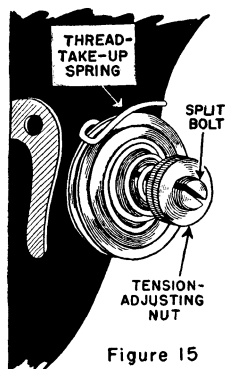

Figure 15
2. If the take-up spring seems weak and does not return to its stop position regularly, it needs another type of adjustment. On many machines the spring is held in place by the split bolt which passes through the tension disks. To adjust the spring, remove tension-adjusting nut, tension-adjusting spring, and tension disks (fig. 15). Then replace the tension-adjusting nut on the split bolt to about the depth of the nut and unscrew the bolt with a screw driver. Replacing nut on the end of the bolt keeps screw driver from spreading the end of the bolt.